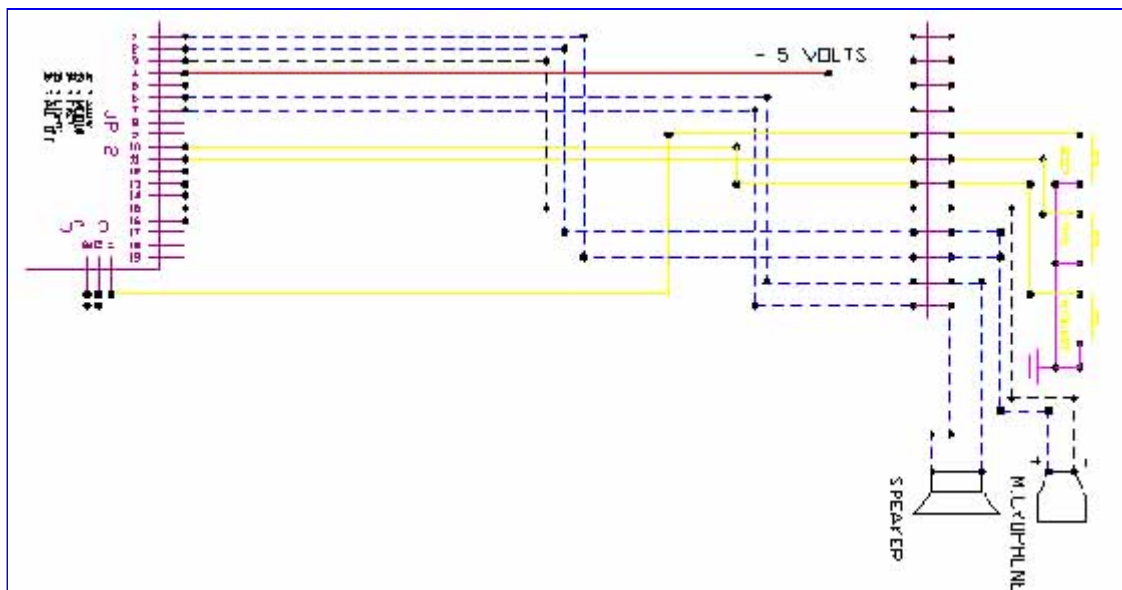

Figure 2. Initial Wiring of Voice Controller (Click to view full diagram)
2. Wire the voice controller as shown in Figure 2.
- When a voltage is applied as shown in Figure 2, the chip should "beep". Now we can train and test the voice chip. Pulling the train pin to ground momentarily and releasing it (or by using a micro-switch) will initiate the train process. The chip will ask for word one. After repeating it, the chip will either accept it or give an error asking for the word again. You can train up to fifteen words. When you have trained all the words you need, press the train button again will end the train session. You can continue to train from the last word you have trained by initiating the same sequence mentioned above. You cannot go back to the previous word, however you can erase all the words and start over by momentarily pressing both the train and the recognize buttons. Here is how we set up the chip for our design: